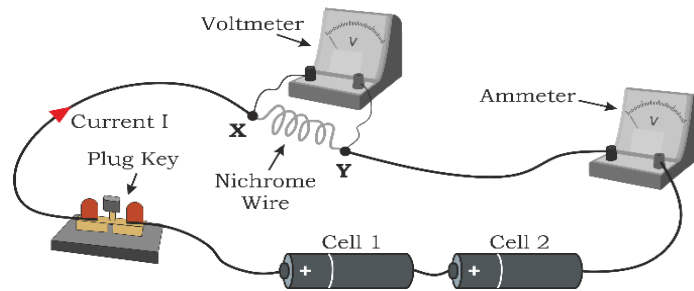

Fig. 2.35: Ohm’s law setup
Step 1. Set up a circuit as shown in Figure 2.35, consisting of a nichrome wire XY of length, say 0.5 m, an ammeter, a voltmeter and four cells of 1.5 V each. (Nichrome is an alloy of nickel, chromium, manganese, and iron metals.)